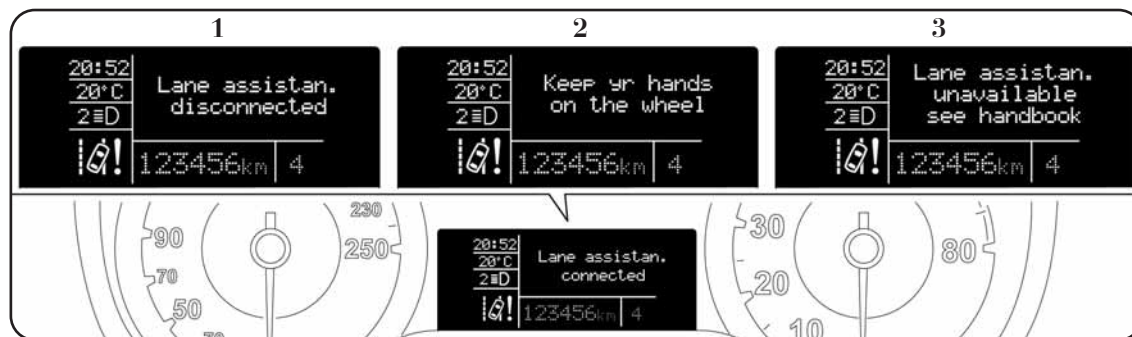

fig. 72
Confirmation of system deactivation is signalled by the LED on the button going out and a message 1-fig. 72 appearing on the display.
The system can be deactivated automatically (if the system is required it will therefore need to be reactivated). The driver is advised that the system has been turned off automatically by three consecutive acoustic signals and the message 1 – fig. 72 in the instrument panel display after the following situations:
- the driver does not keep his hands on the steering wheel (indication 2-fig. 72 is shown on the instrument panel and a buzzer sounds until the driver places his hands back on the wheel. This is considered a dangerous condition and the system is automatically deactivated);
In the event of a malfunction, the system reports the fault via a message 3-fig. 72 appearing on the display and a buzzer sounding.